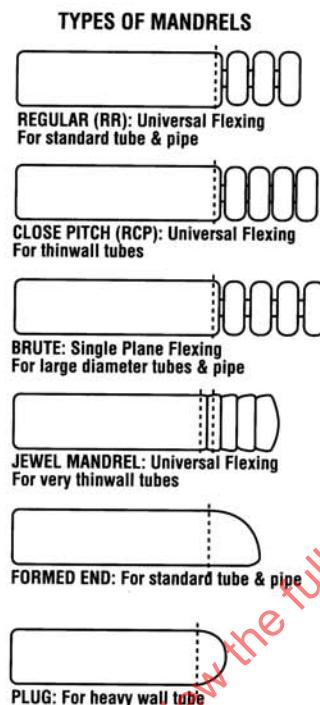

FIGURE 10- Types of Mandrels
7. TYPES OF MANDRELS (Figure 10):